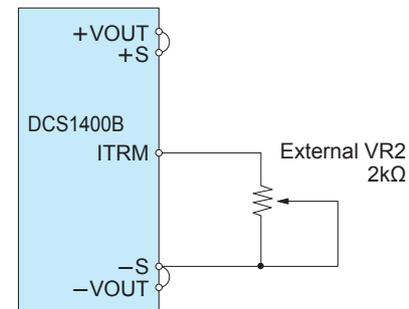

Fig.3.7 Connecting External Devices
(1) Constant current adjustment by potentiometer
■ By connecting the external potentiometer (VR2) as shown in Fig.3.7, output current for constant current becomes adjustable.